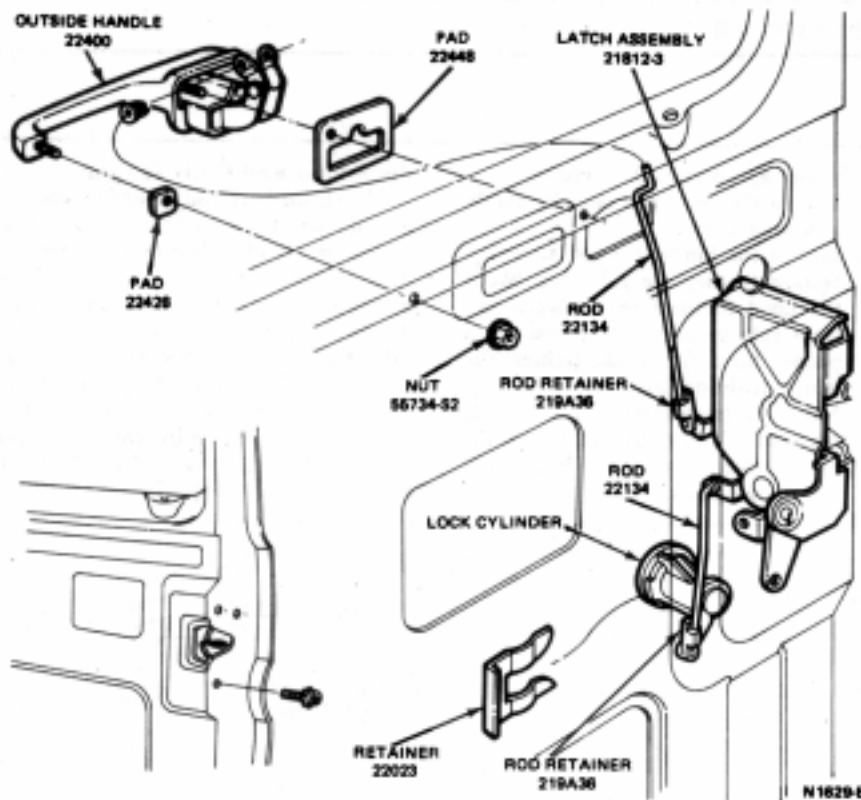

FIG. 15 Door Outside Handle and Locking Mechanism—Econoline
2. Remove two nuts retaining the outside handle to the door. Remove the handle and pads from the door (Fig. 15).